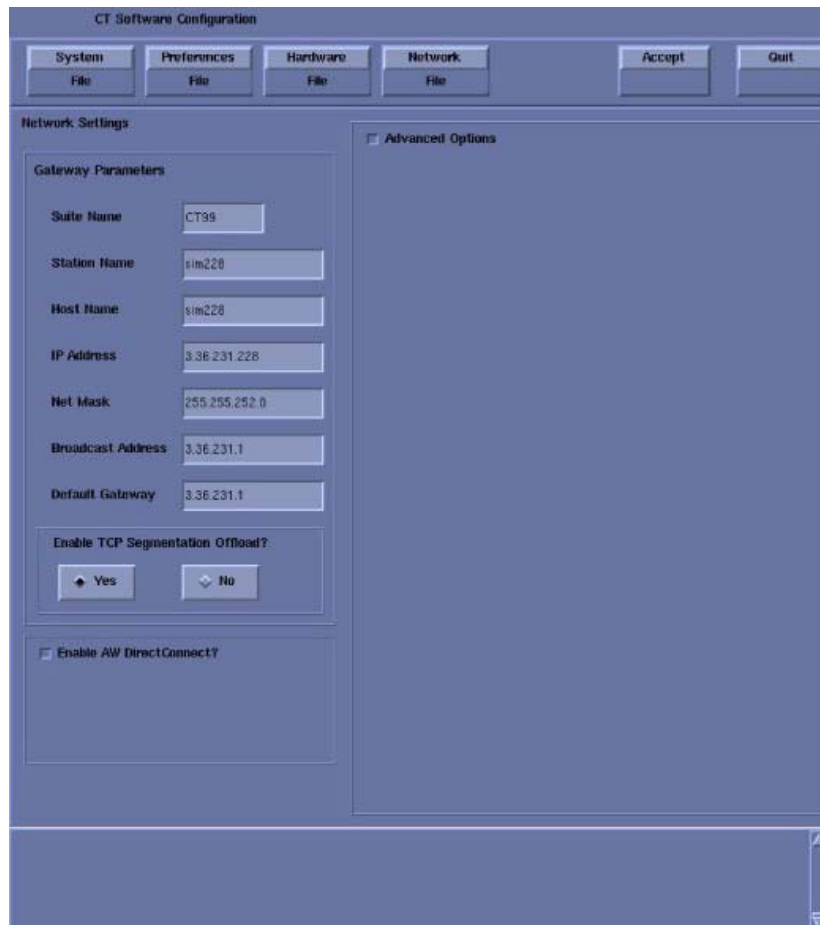

Figure 8-3 Networks Settings Screen
- 1.) Select the NETWORK button to display the Network Settings screen as shown in Figure 8-3.